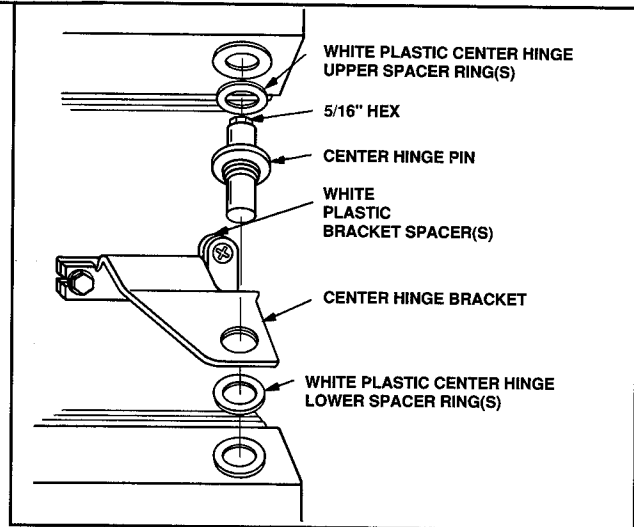

Figure 11
- a. Save plastic center hinge spacer ring(s) from center hinge pin and use in Step 14. See Figure 11.
- d. Save plastic center hinge spacer ring(s) from center hinge pin bracket and top of door and use in Step 14. See Figure 11.